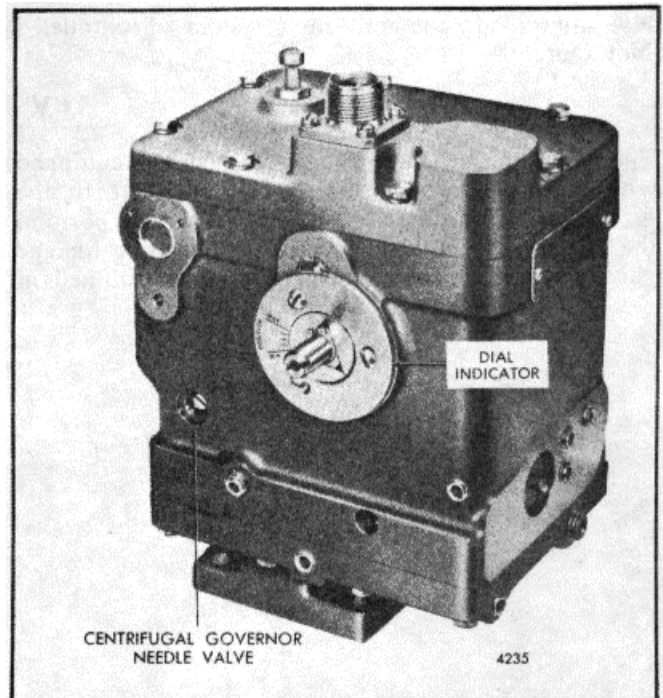

Fig. 6. - Location of Centrifugal Governor Needle Valve
19. As an additional check, the governor operating lever should be in a position indicating maximum on the dial indicator (Fig. 6), when the injector rack control levers are in the full-fuel position. If not, readjust the vertical link.
1. Open the needle valve of the centrifugal governor section until the engine hunts or surges (Fig. 6). After a half minute, gradually close the needle valve until the engine speed just stabilizes. Closing the needle valve farther than necessary will make the governor slow to return to normal speed after a load change. Never close the needle valve tight.